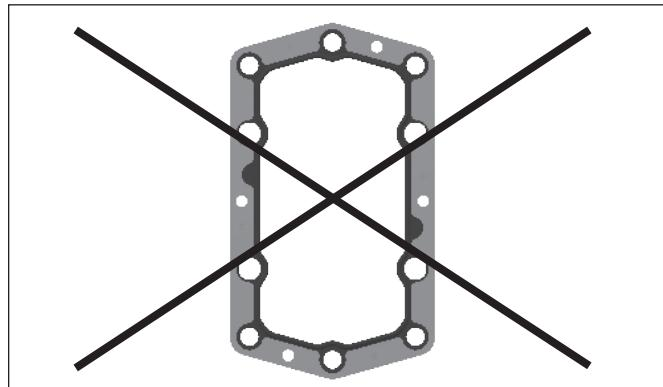
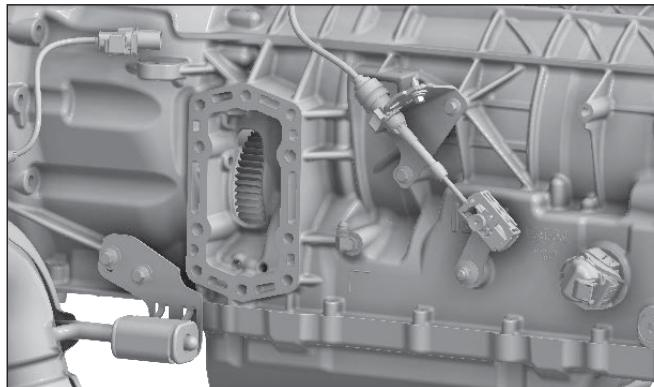

Figure 16
Figure 17
5. Remove and discard the PTO aperture cover plate and gasket. Do not use this gasket when installing the PTO (Fig. 16 and Fig. 17).